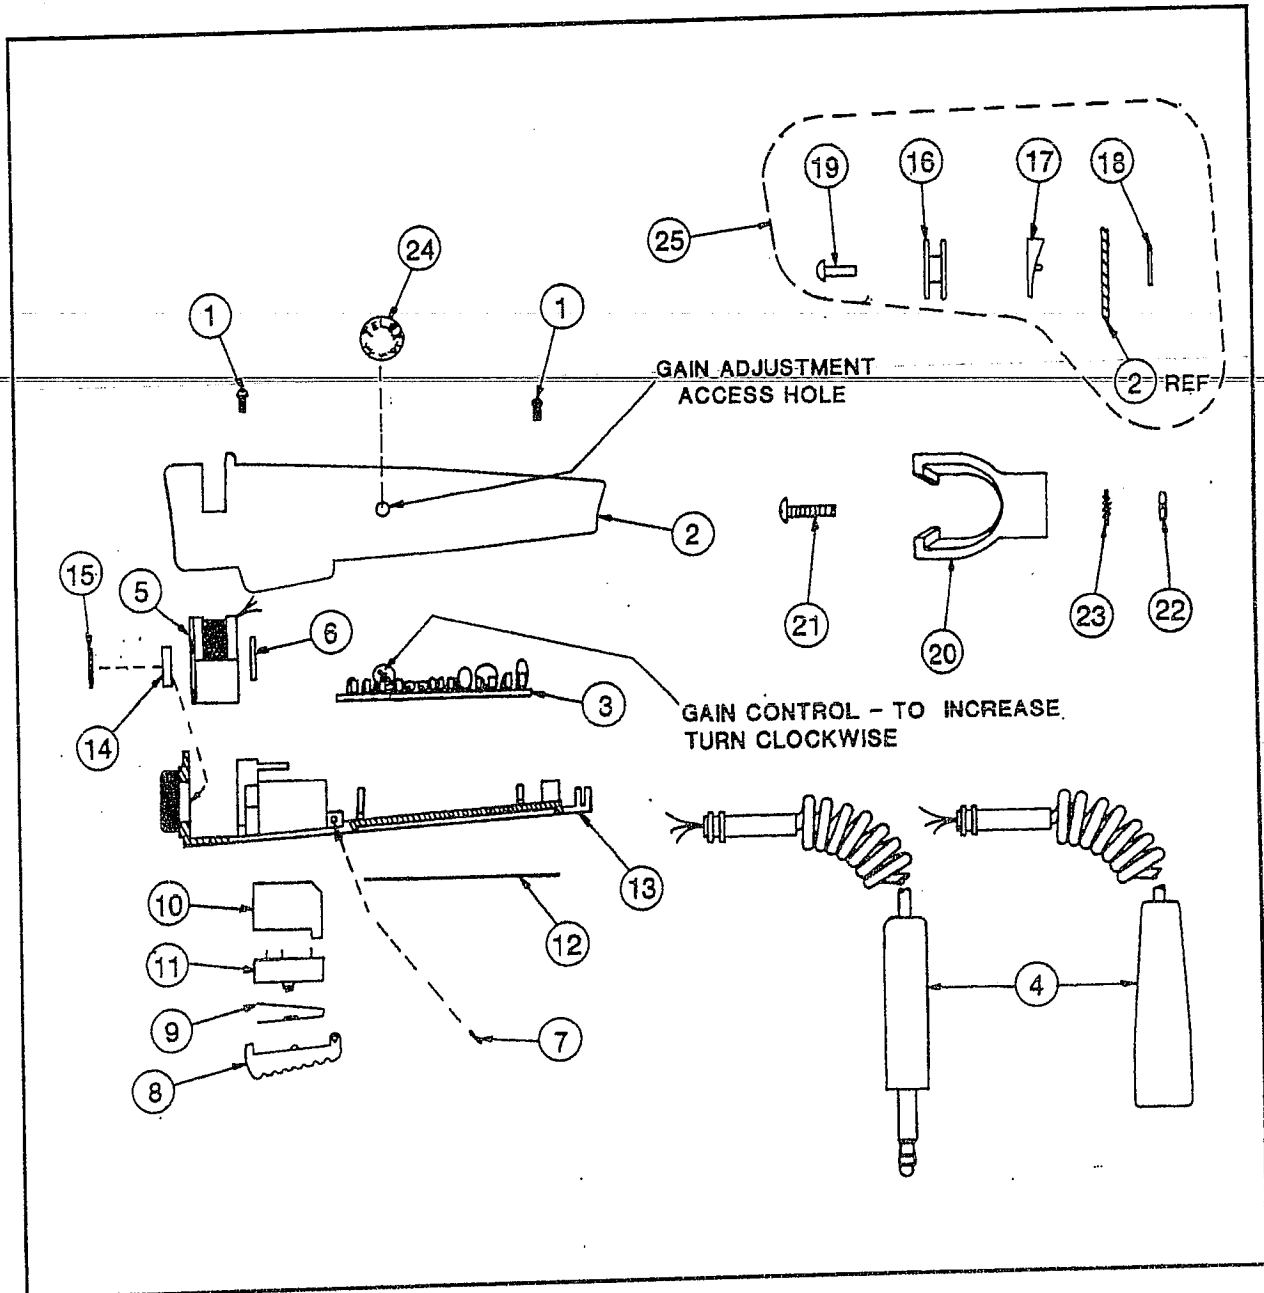

Figure 3
#### Microphone Parts List (Ref Figure 3)
2. Remove gain adjustment access cover (Figure 3, item 24).